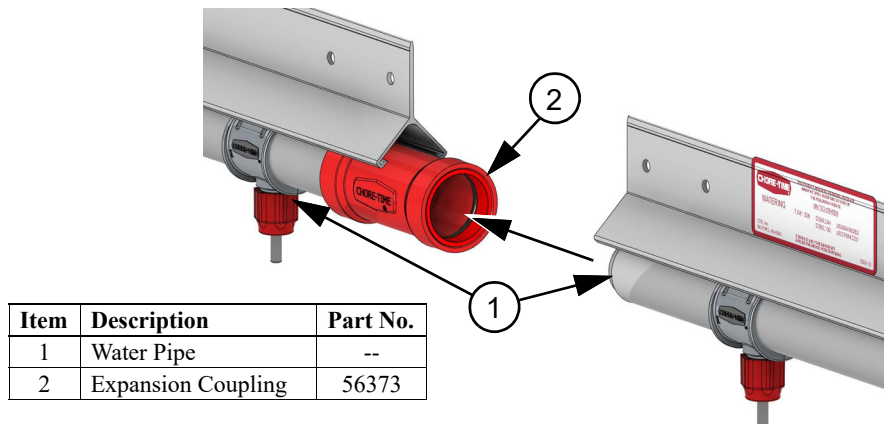

Figure 19. Coupling Liner Assembly Installation
2. Make sure the water pipe is lubricated (See above) and fully inserted into the Expansion Coupling. (See Figure 19).